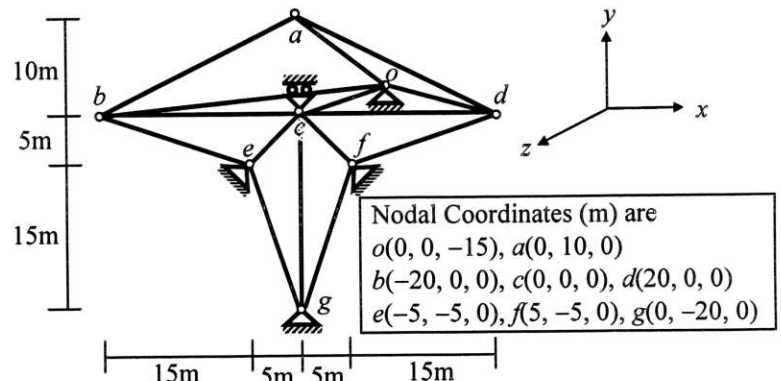

Fig. 3
3. Ignore zero-force members to form the stiffness matrix and write down the boundary conditions of the space truss *oabcdefg* shown in Fig. 3 [Given: $S_x = \text{constant} = 5 \text{ kN/mm}$].